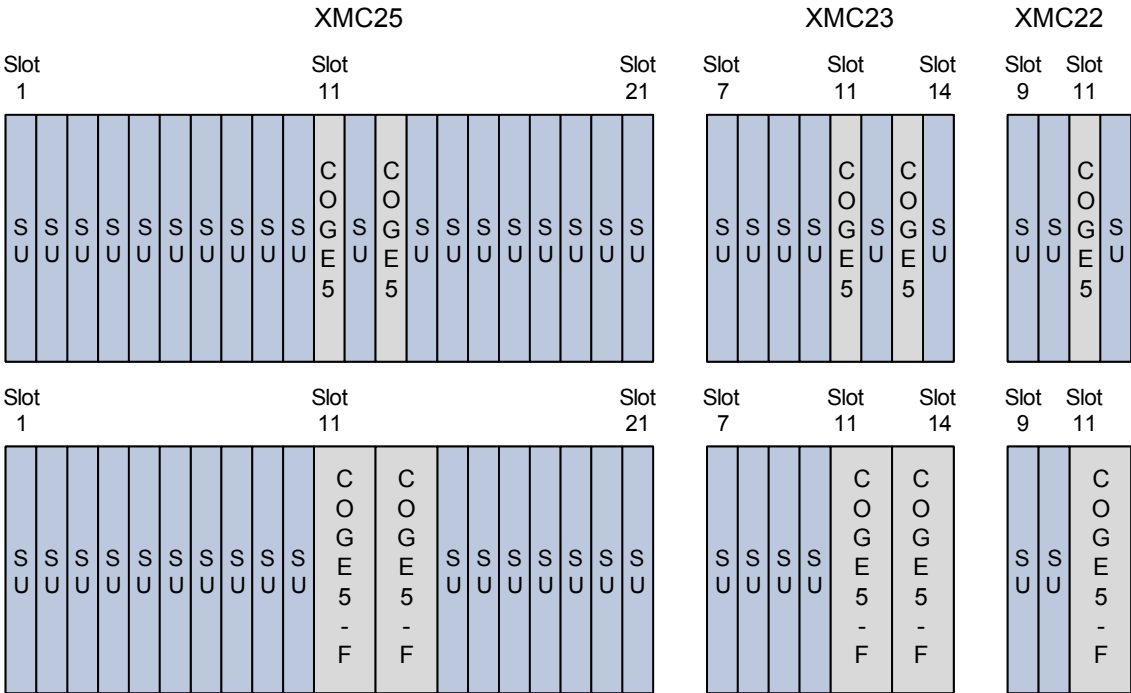

Figure 5: XMC20 subracks with core unit COGE5 in slot 11 & redundant core unit COGE5 in slot 13
In systems with an additional, redundant core unit, the redundant COGE5 is placed in slot 13 as shown in Figure 5 "XMC20 subracks with core unit COGE5 in slot 11 & redundant core unit COGE5 in slot 13". All other slots can be equipped with service units (SU).